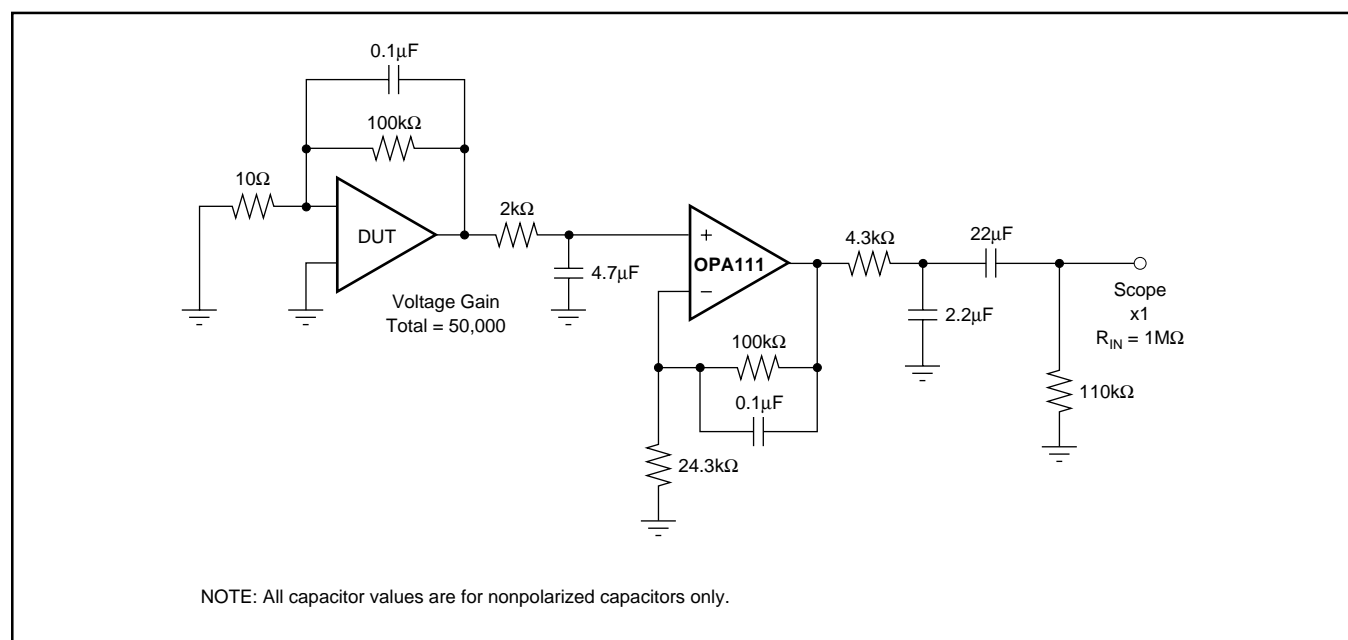

FIGURE 1. 0.1Hz to 10Hz Noise Test Circuit.
NOTES: (1) Measured with industry-standard noise test circuit (Figures 1 and 2). Due to errors introduced by this method, these current noise specifications should be used for comparison purposes only. (2) Offset voltage specification are measured with automatic test equipment after approximately 0.5 seconds from power turn-on. (3) Unnulled or nulled with 8k $\Omega$  to 20k $\Omega$  potentiometer. (4) Long-term voltage offset vs time trend line does not include warm-up drift. (5) Typical specification only on plastic package units. Slew rate varies on all units due to differing test methods. Minimum specification applies to open-loop test. (6) This parameter specified by design.